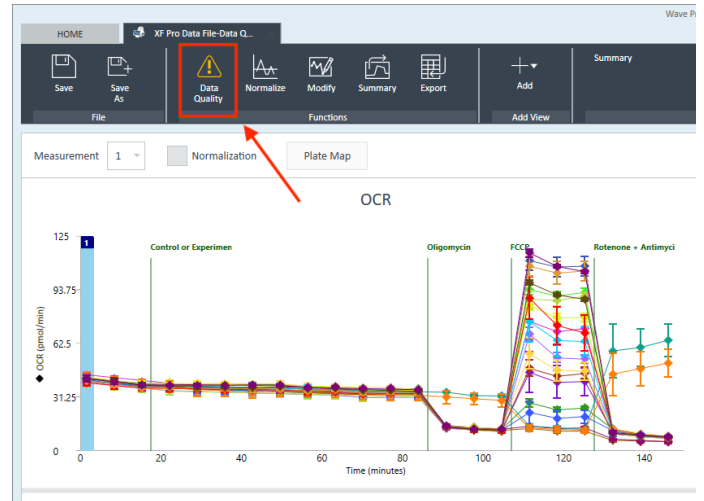

Figure 4. Data Quality button in the Functions ribbon.
- To display the Data Quality analysis view and interact with the results, click the button in the functions ribbon (Figure 4).